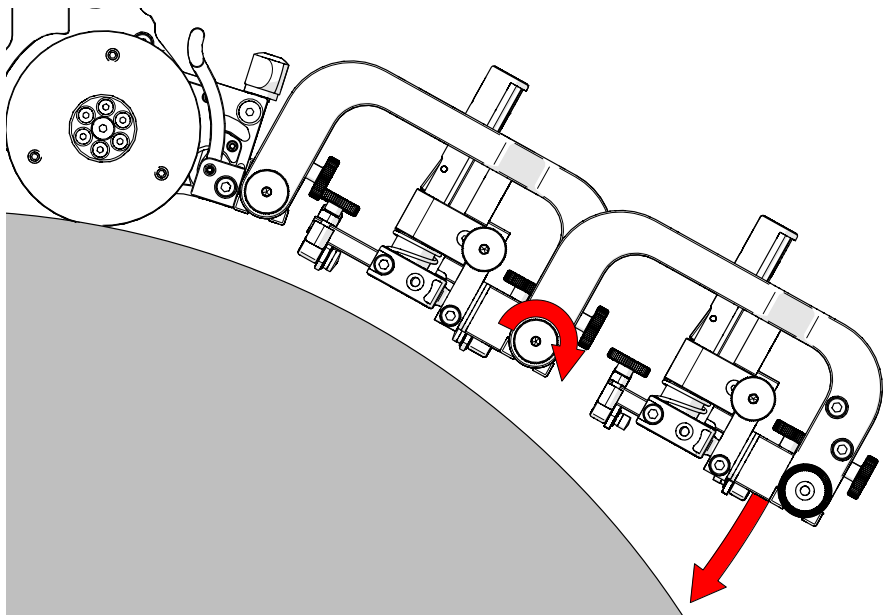
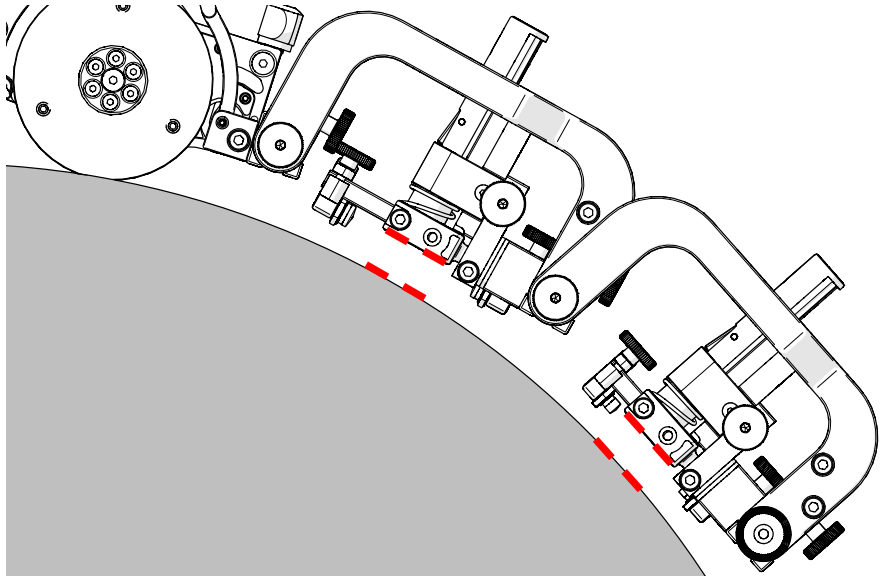

Fig. 147 - Set front rotational adjustment knob
Fig. 148 - Align probes with the scan surface tangent
6. Loosen the front rotational adjustment knob (*Fig. 147*) to align the TOFD probe holders parallel with the scan surface (*Fig. 148*).